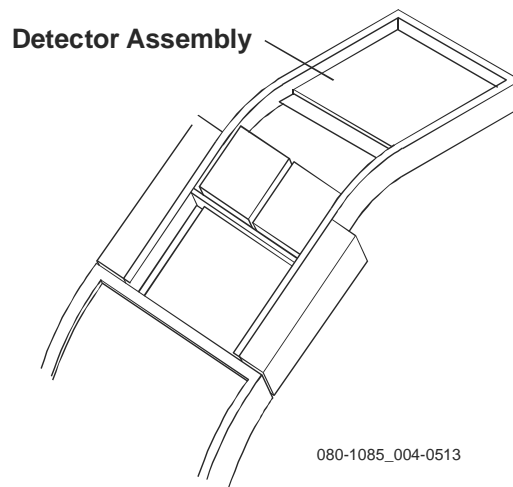
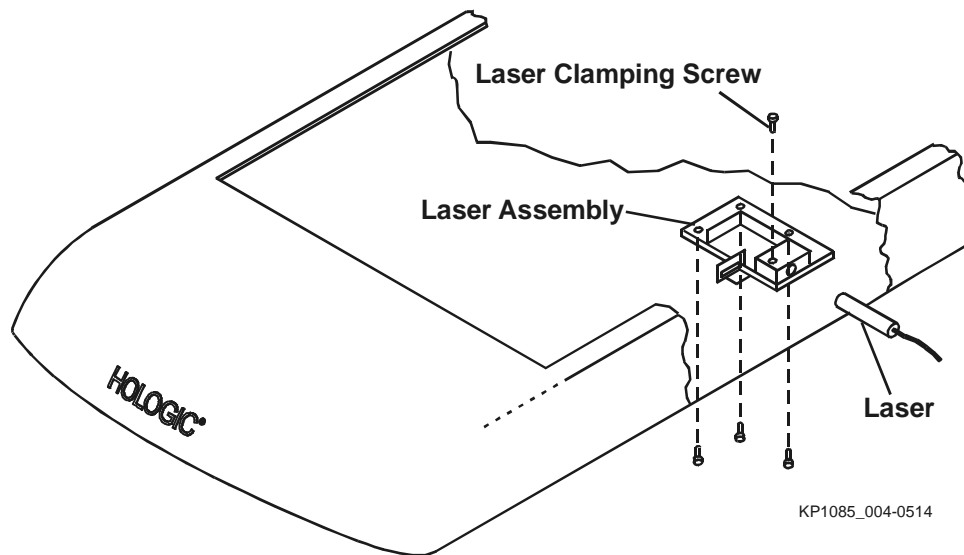

Figure 5-11. Detector Assembly Mounting
Figure 5-14. Laser Assembly
To remove and replace the Detector Assembly (refer to Figure 5-11) and follow the procedure below:
To remove and replace the Laser, or Laser Assembly, refer to Figure 5-11 and Figure 5-14 and follow the procedure below:
4. Remove the 4 bolts holding the Detector Assembly (on rubber grommets) to the C-arm (see Figure 5-11).